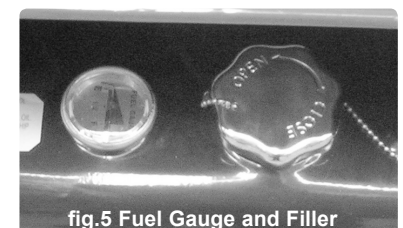

fig.5 Fuel Gauge and Filler
5.1.2 Fill the fuel tank (fig.5) with paraffin, kerosene or diesel until the fuel gauge points to "F". **DO NOT** mix the fuels, always drain and clean out the fuel tank when changing type of fuel.